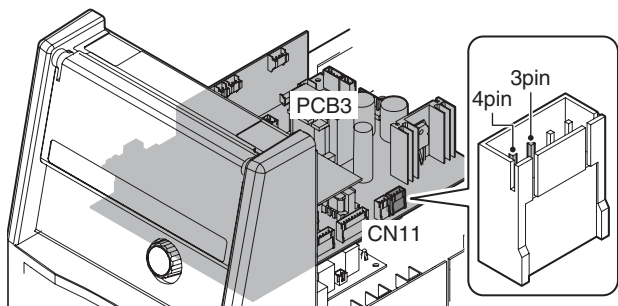

Figure 11-13: Verification of the SOL1
- 1) Verify the voltage between the PIN 3 (Positive [+]) and PIN 4 (Negative [-]) of connector CN11 on PCB3 (WK-5548) while you press the torch switch while in TIG Mode. (The capacity of the voltmeter should be more than 50VDC.) The location of connector CN11 of PCB3 (WK-5548) is indicated in Figure 11-13. When you measure the above voltage, do not remove the connector. Conduct the measurement while the connector plug and receptacle are still connected.